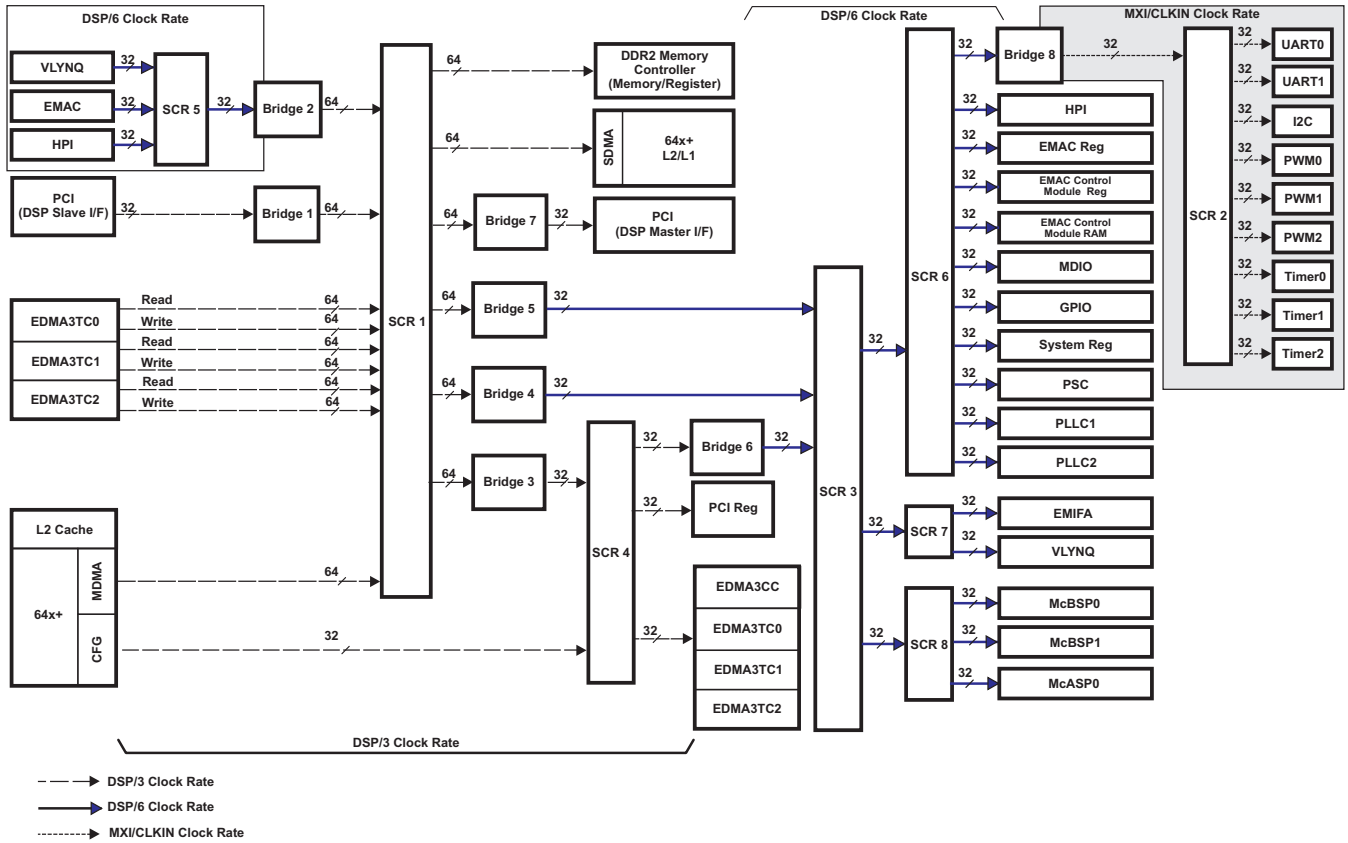

Figure 4-1. System Interconnect Block Diagram
On the C6424 device, the C64x+ Megamodule, the EDMA3 transfer controllers, and the system peripherals are interconnected through a switch fabric architecture (see Figure 4-1). The switch fabric is composed of multiple switched central resources (SCRs) and multiple bridges. The SCRs establish low-latency connectivity between master peripherals and slave peripherals. Additionally, the SCRs provide priority-based arbitration and facilitate concurrent data movement between master and slave peripherals. Through an SCR, the DSP can send data to the DDR2 Memory Controller without affecting a data transfer between the EMAC and L2 memory. Bridges are mainly used to perform bus-width conversion as well as bus operating frequency conversion. For example, in Figure 4-1, Bridge 6 performs a frequency conversion between a bus operating at DSP/3 clock rate and a bus operating at DSP/6 clock rate. Furthermore, Bridge 5 performs a bus-width conversion between a 64-bit bus and a 32-bit bus.
Figure 4-1 displays the C6424 system interconnect block diagram. The following is a list that helps in the interpretation of this diagram:
- A peripheral may have multiple instances shown in Figure 4-1 for the following reason: